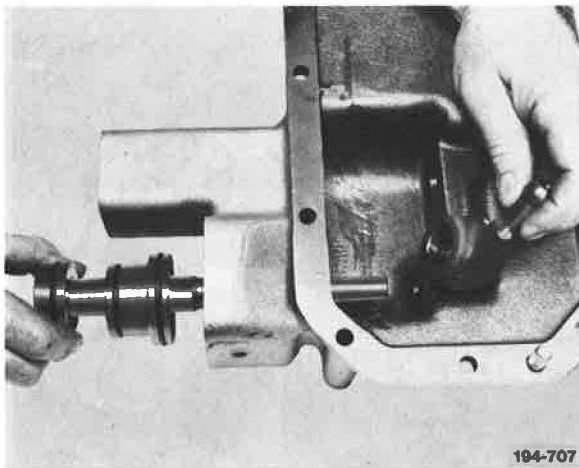

Figure 235. Installing Shift Rail and Shifter
6. Insert Hi/Direct shift rail into shift cover, and at the same time, install Hi/Direct shifter onto shift rail. See Figure 235.